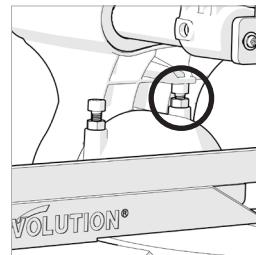

Fig. 14
- Loosen the locknut on the Bevel Angle Adjustment Screw. (**Fig. 14**)